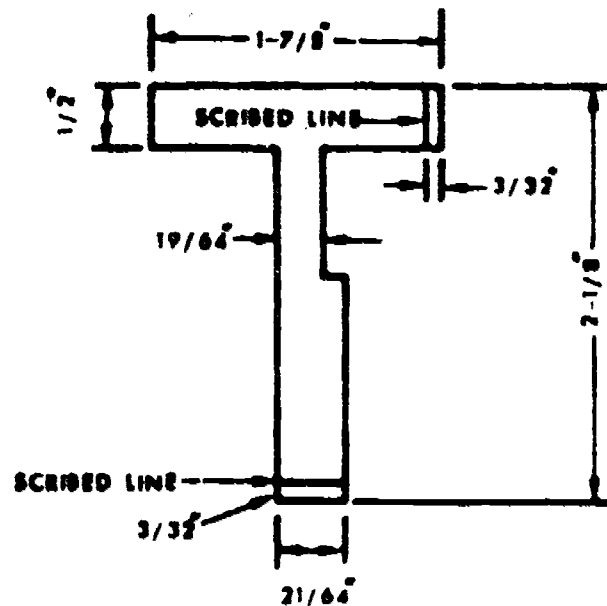

Figure 36. Needle Bar Gauge.
If the needle bar is unmarked, obtain a needle bar gauge as illustrated in figure 36.
4. Use needle bar gauge, figure 36. Adjust needle bar to measure 1-7/8 inches from needle bar rocker frame, figure 35C, to bottom of needle bar, figure 35A.